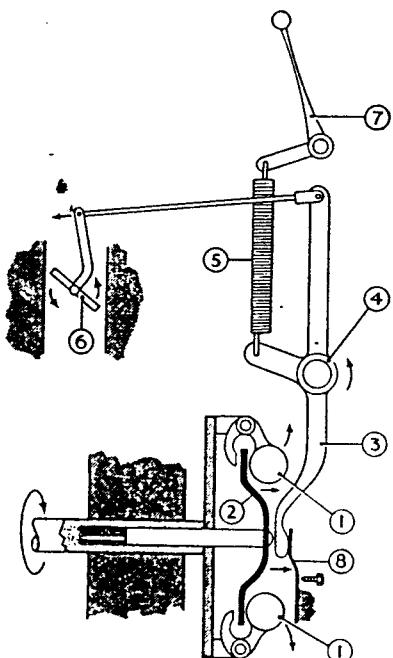

FIG. 2
### Action of Governor—Fig. 2.
Fig. 2, shows a diagrammatic view of the governor, from which it can be seen that as the assembly revolves, centrifugal force causes the bobweights (1) to fly out developing a secondary horizontal force acting on the governor lever (3) through the governor cup (2). This force is always proportional to the governor speed, which in turn is proportional to the engine speed :